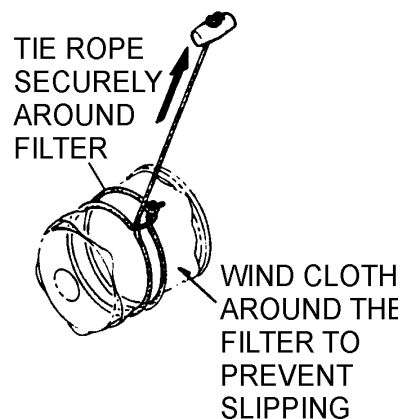

Figure 31. Cloth and Rope Around Filter
4. To remove the oil filter, wind a cloth around the filter to prevent slipping (Figure 31).
5. Tie a rope securely around the filter (Figure 31).